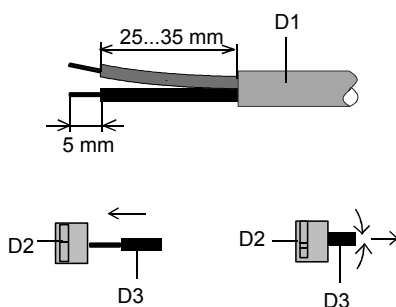

Figure 4: Connecting/disconnecting bus cables
Connecting bus cables (figure 4)
- Press the sheathing of the cut-off insulation bus line (figure 4) projecting >3mm into the open clamping slot (C4). If a further bus line shall be connected break out the closed clamping slot with a screw-driver and press it into the clamping slot as described above. Press the single bus wires into the recess below the bus terminal block and snap on the cover (C1).
Disconnecting bus cables (figure 4)